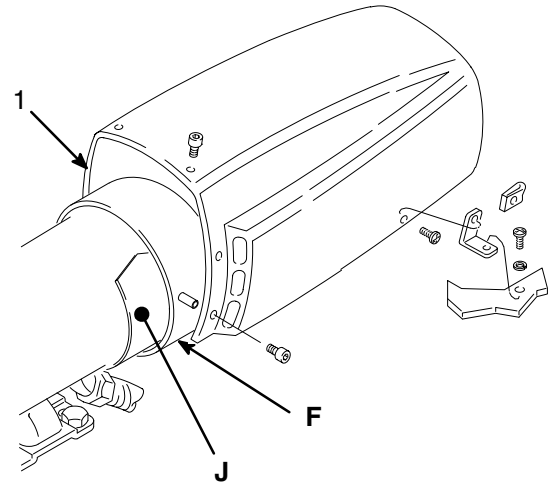

Fig. 9
Remove the motor shield (1), the fan cover (F) and the inspection covers (J). See Fig. 9.